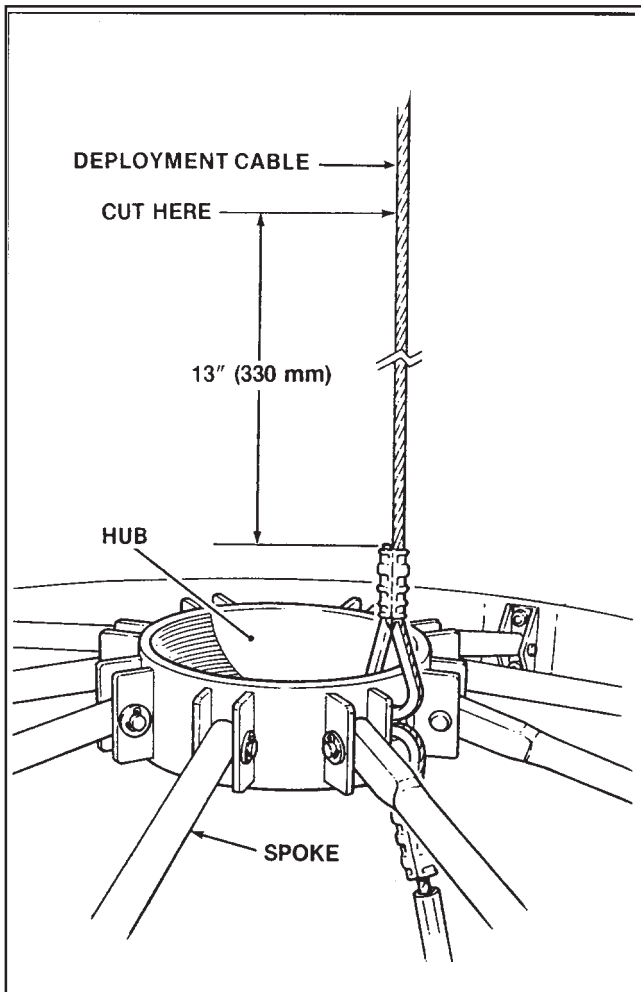

Fig. 5: Cut 13"(330 mm) off the IDS Deployment Cable.
5) Cut 13" (330 mm) off the IDS Deployment Cable as shown in Fig. 5.